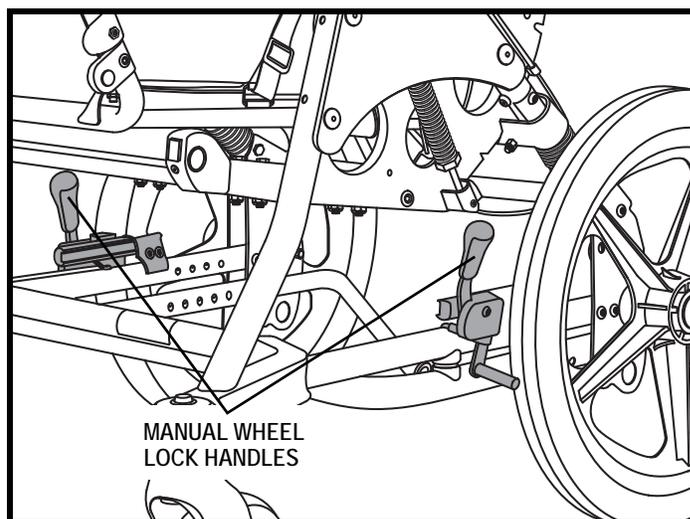

Figure 9. Kids ROCK 2 and ROCK 3 Manual Wheel Lock
1. Locate the manual wheel lock handles on both sides of the frame, just in front of the rear wheels. See figure 9.